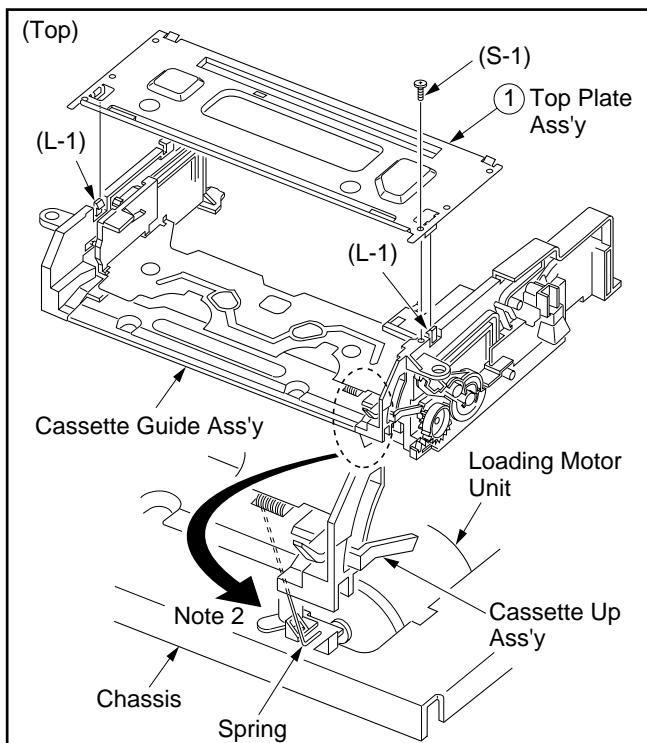

Fig. K1
- As an ESD countermeasure, make sure the spring is in contact with the chassis as shown in Fig. K1.